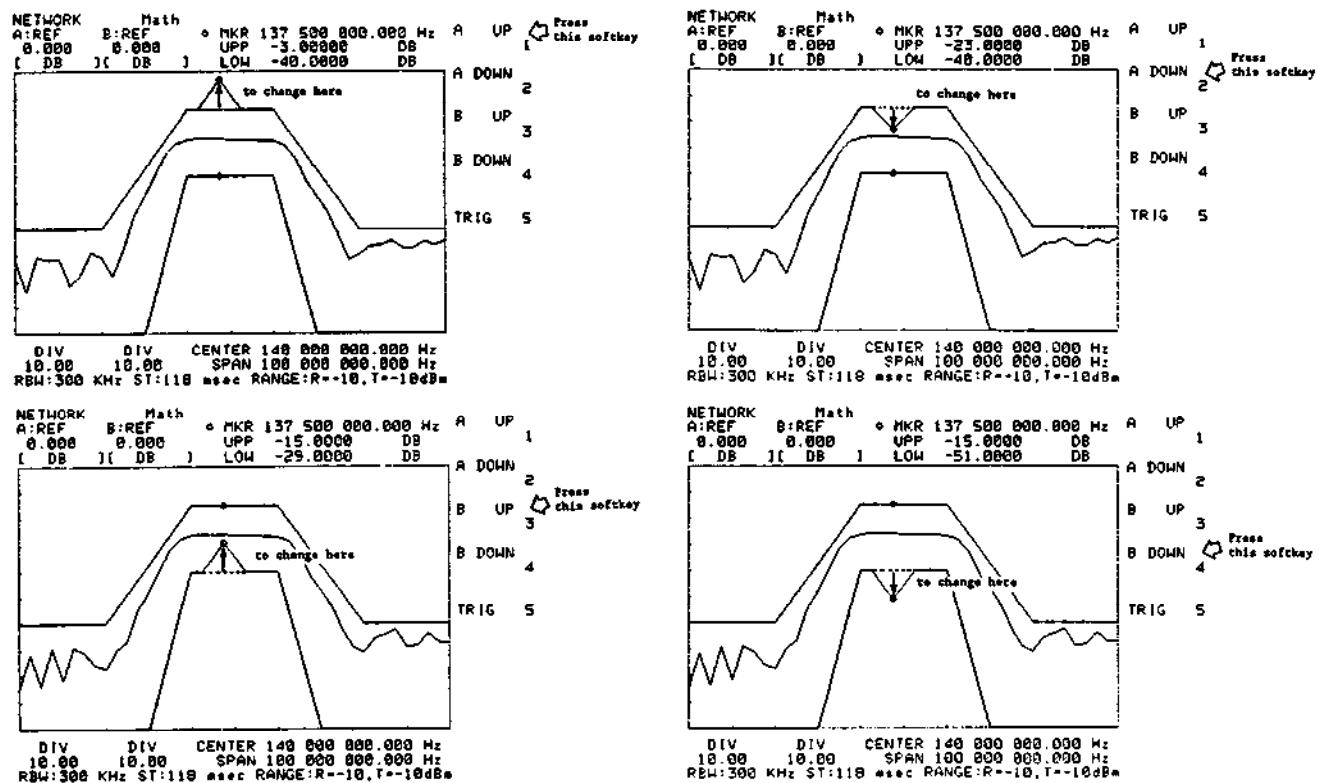

Figure 6. Limit Line Modification
- 4) If you want to modify the limit lines, press the **USER DEFINE** key, then move a marker to a point you want to modify and press the softkeys to modify the limit lines displayed on the screen, as shown in Figure 6.